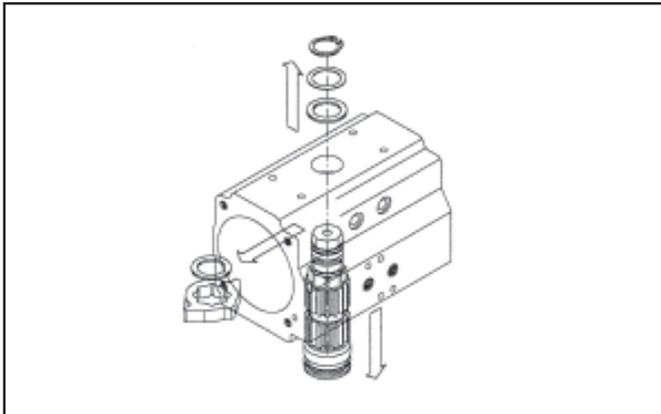

Fig. 19
Pinion shaft disassembling (30): (Figure 19)
- Remove spring clip (18) carefully, using snap-ring pliers, remove external thrust bearing (8) and thrust washer (10).
- Apply downward force to top of drive shaft (30) until it is partially out of the bottom of the body when it is possible to remove the octi-cam (1) and internal thrust bearing (8), then push the pinion (30) completely out of the bottom of the body. If pinion does not remove freely gently tap the top of the shaft with a plastic mallet.
- Discard bearings (6 and 7), internal and external thrust washer (8) and O-rings (21 and 22) if replacing all soft components.